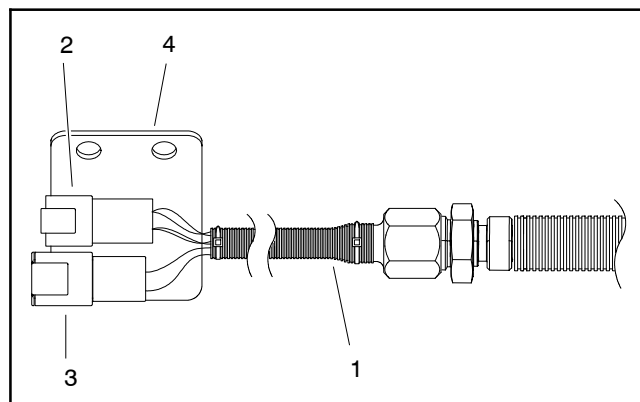

Figure 71
4. Carefully disconnect two (2) reel motor cable connectors from machine wire harness (Fig. 71).